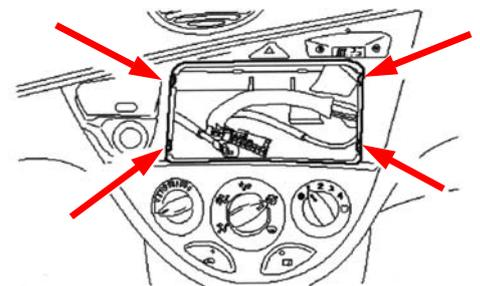

Fig. 1
- Remove the radio/cassette unit or CD player (see Fig. 1).